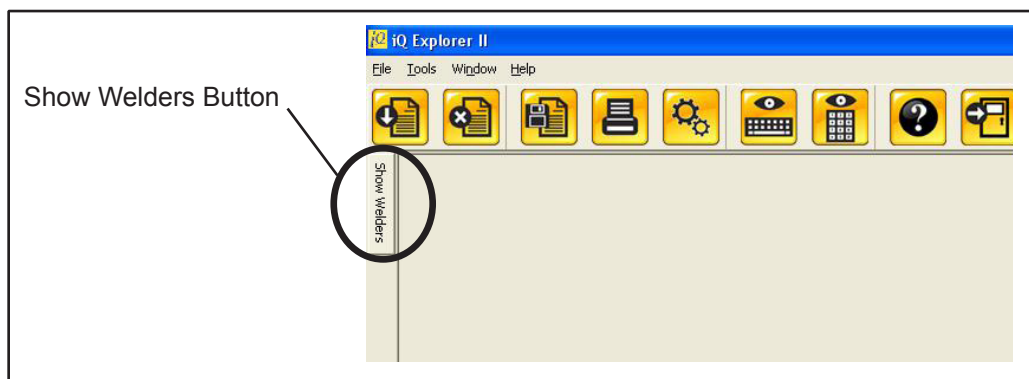

Figure 4-29 Setup - Show Welders
1. To view the available connections press the **Show Welders** button to the left of the application as shown in Figure 4-29. Once a welder has been detected, all setup information in the welder is synchronized with the PC.